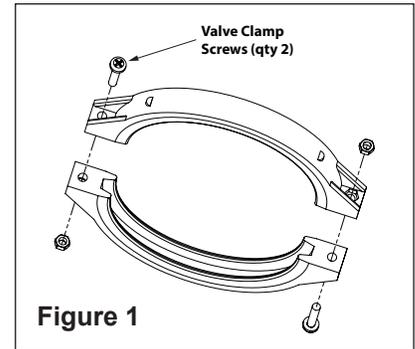
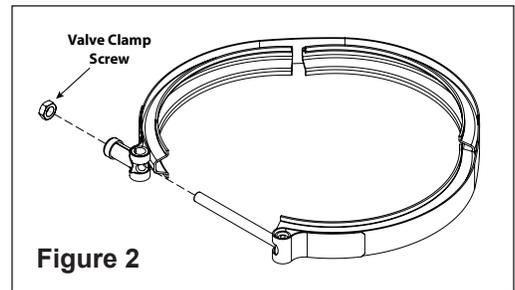

Figure 1
Figure 2
1. Depending on your model of Sweetwater® Bead Filter, there are two different valve clamps that can be included with the filter (see Figure 1 or Figure 2). The Sweetwater 165 and 330 include the clamp shown in Figure 1, while the Sweetwater 495 and 990 include the band clamp shown in Figure 2.